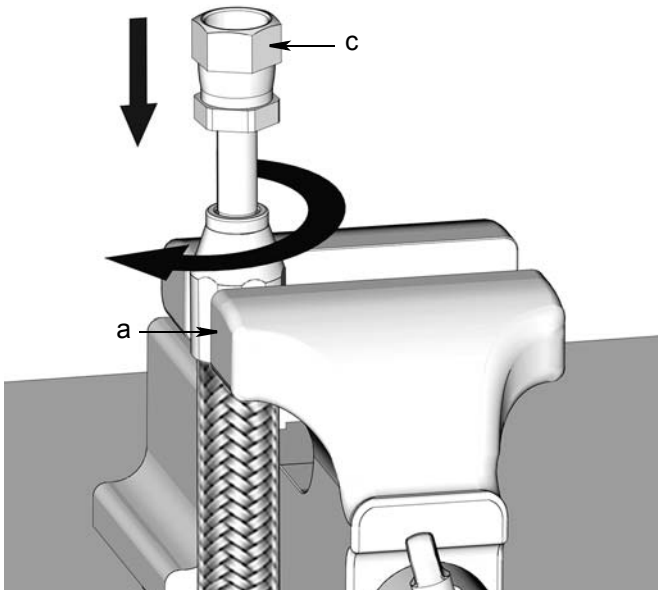

FIG. 61
7. Lightly push nipple (c) into socket (a). Screw nipple clockwise into socket and hose (FIG. 61).